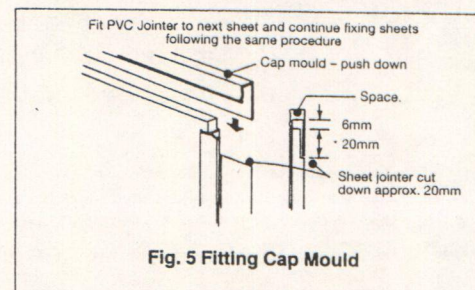

Fig. 5 Fitting Cap Mould
- If a cap mould is being used it will be necessary to cut the sheetholder to allow for the cap mould. (Refer Fig. 5)